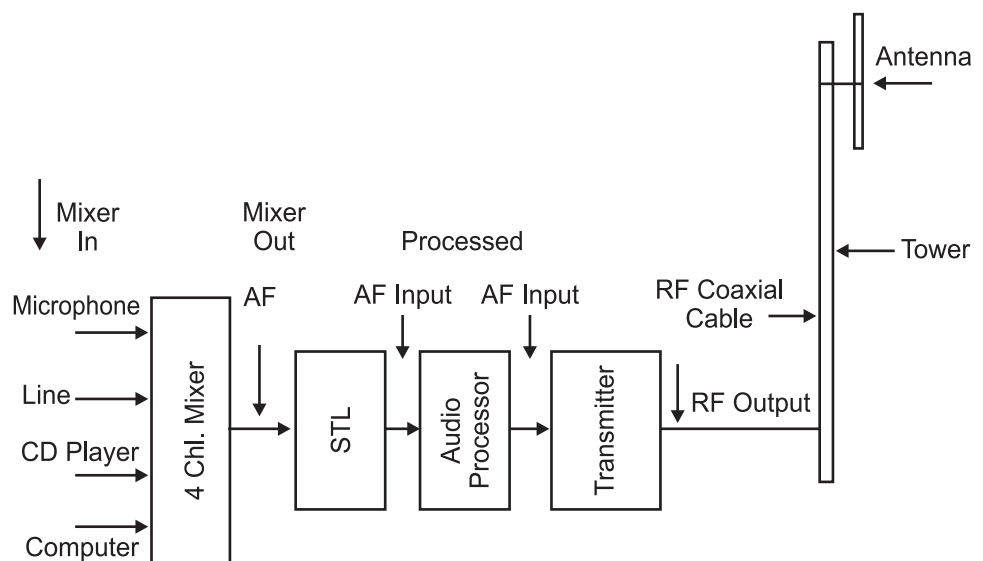

Figure 23.1: Schematic diagram illustrating the components of transmission chain
The function of transmission chains is to transmit the programmes by routing them through the playback console to the studio-transmitter link, on to the audio processor and then to the transmitter, and further on to the antenna for broadcast of RF signals on air. The main components of the chain are shown in Figure 23.1. Details of all these components of a transmission chain are described in the sections below.
Figure 23.1 illustrates a typical transmission chain used at almost all the CR stations.
You may note the sequence in which the components of the transmission chain are connected in Figure 23.1. Each stage and the type of signal available at the input and output of that stage are labelled for the purpose of understanding the process. The audio mixer/console selects one out of the four input channels that is to be broadcast. A studio transmitter link (STL) feeds the selected channel to the audio processor. An STL is, however, not required where the studio and the transmitter are co-located, which is generally the case with most CR stations. The audio processor processes the audio signals to increase the average modulation and at the same time limits the audio level to protect the transmitter from over-modulation. The output of this processor is fed to the input of the transmitter. The transmitter then converts the processed audio signals into frequency modulated (FM) radio frequency (RF) signals at the rated output power. The output of the transmitter is connected to the antenna system mounted on top of the tower via an RF coaxial cable. An antenna system converts the RF out of the transmitter to electromagnetic (EM) waves travelling in all directions.